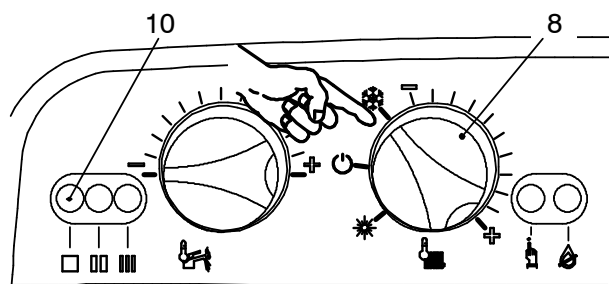
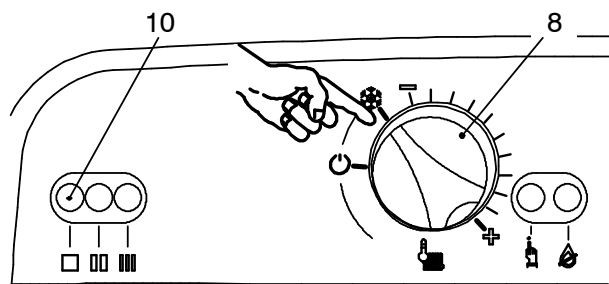

Fig. 2.4
Fig. 2.5
- 2 Turn on the electricity supply to the boiler, switching on the fused spur isolation switch. The appliance operation light 10 (Fig. 2.4) will flash every 4 seconds (stand-by condition).
- 3 If the boiler is to be used for c.h. and d.h.w position the function selector 8 as in Fig. 2.4 (combi) or in Fig. 2.5 (c.h. only). The appliance operation light 10 will flash every 2 seconds (operating boiler).